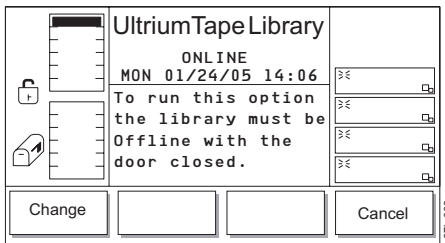

Figure 4-134. Library Submenu
2. Press the button below the **Library** softkey. The Library Submenu displays (see Figure 4-134).